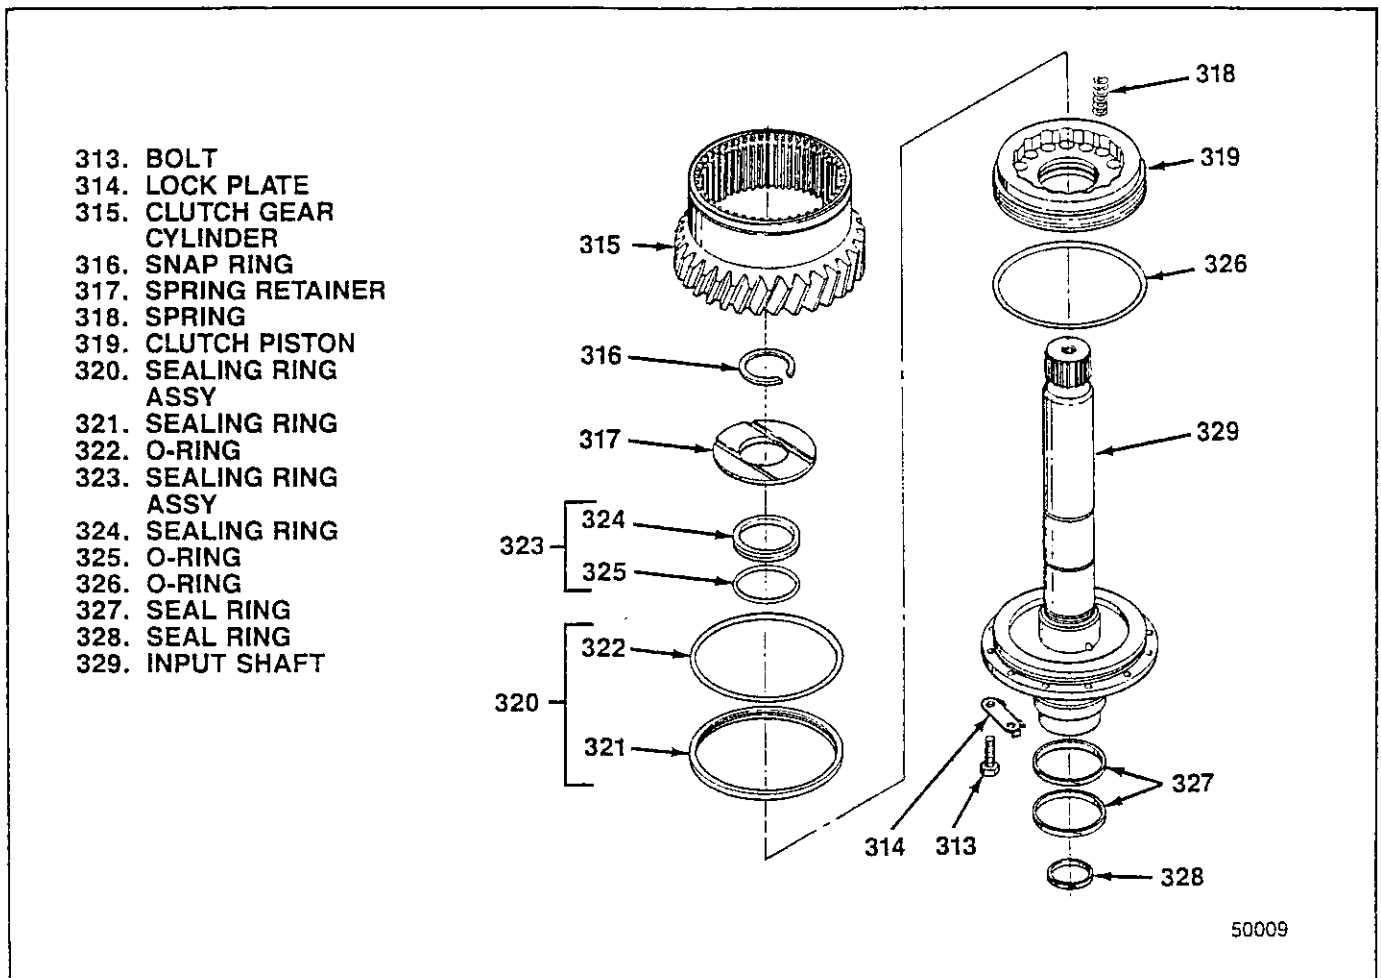

Figure 3-11. Input Clutch Cylinder and Piston
**3-19. REMOVAL OF CLUTCH CYLINDER AND PISTON.** Proceed as follows (see figure 3-11):
**CAUTION:** OD and ID of clutch piston (319) and mating bore in clutch gear cylinder (315) and OD on input shaft (329) are highly finished. Use care not to scratch or otherwise damage these surfaces. Otherwise fluid leakage and shifting malfunction may result.
1. Bend down tabs on lock plates (314). Remove twelve bolts (313) and six lock plates (314).
2. Remove clutch gear cylinder (315) from input shaft (329).